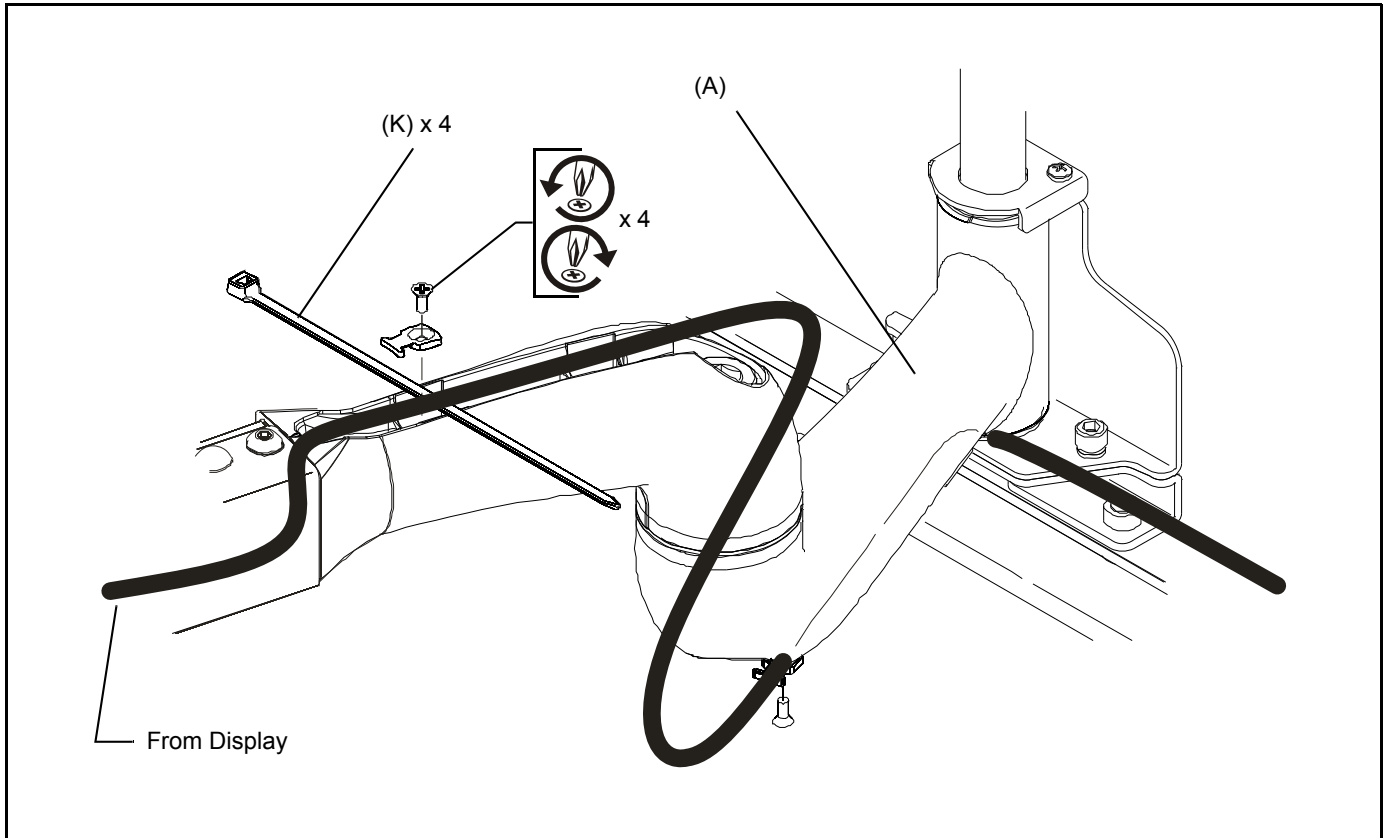

Figure 11
1. Loosen front and rear cable clamps on top arm. (See Figure 11)
2. Thread cable ties (K) under cable clamps and secure clamps to top arm. (See Figure 11)
3. Route power/audio/video cables through the cable channel in top arm (See Figure 11), allowing sufficient slack in cables for left/Right movement of display and swing arm and also swing arm extension and retraction.
4. Secure cables to top arm using two cable ties (K).